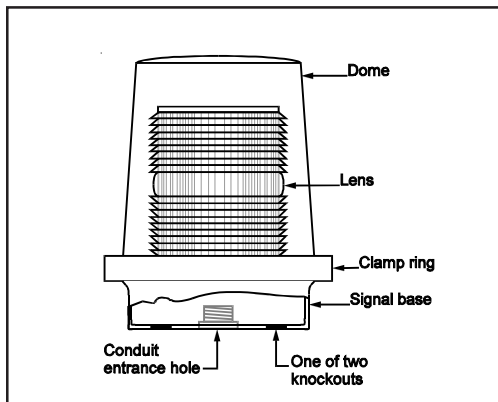

Figure 1. Catalog Series 49 Flashing Lights
**49 Series:** See Figure 1. Remove the screw in the clamp ring, remove the ring, and lift off the dome. Loosen the three screws in the base of the lens and turn the lens clockwise to remove. Then remove the two screws that are partially set into the raised area of the lamp assembly mounting plate, lift the assembly off of the base, and pull the wire leads out of the conduit entrance hole in the base. Proceed to step 2 for installation of the base.
**49 Series:** See Figure 1. Remove the screw in the clamp ring, remove the ring, and lift off the dome. Loosen the three screws in the base of the lens and turn the lens clockwise to remove. Replace the lamp.